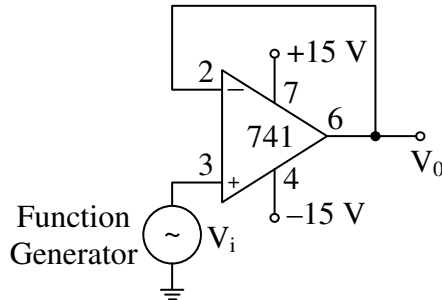

Fig. 9.12 Unity-gain follower: experimental circuit
1. Construct the circuit in Fig. 9.12.